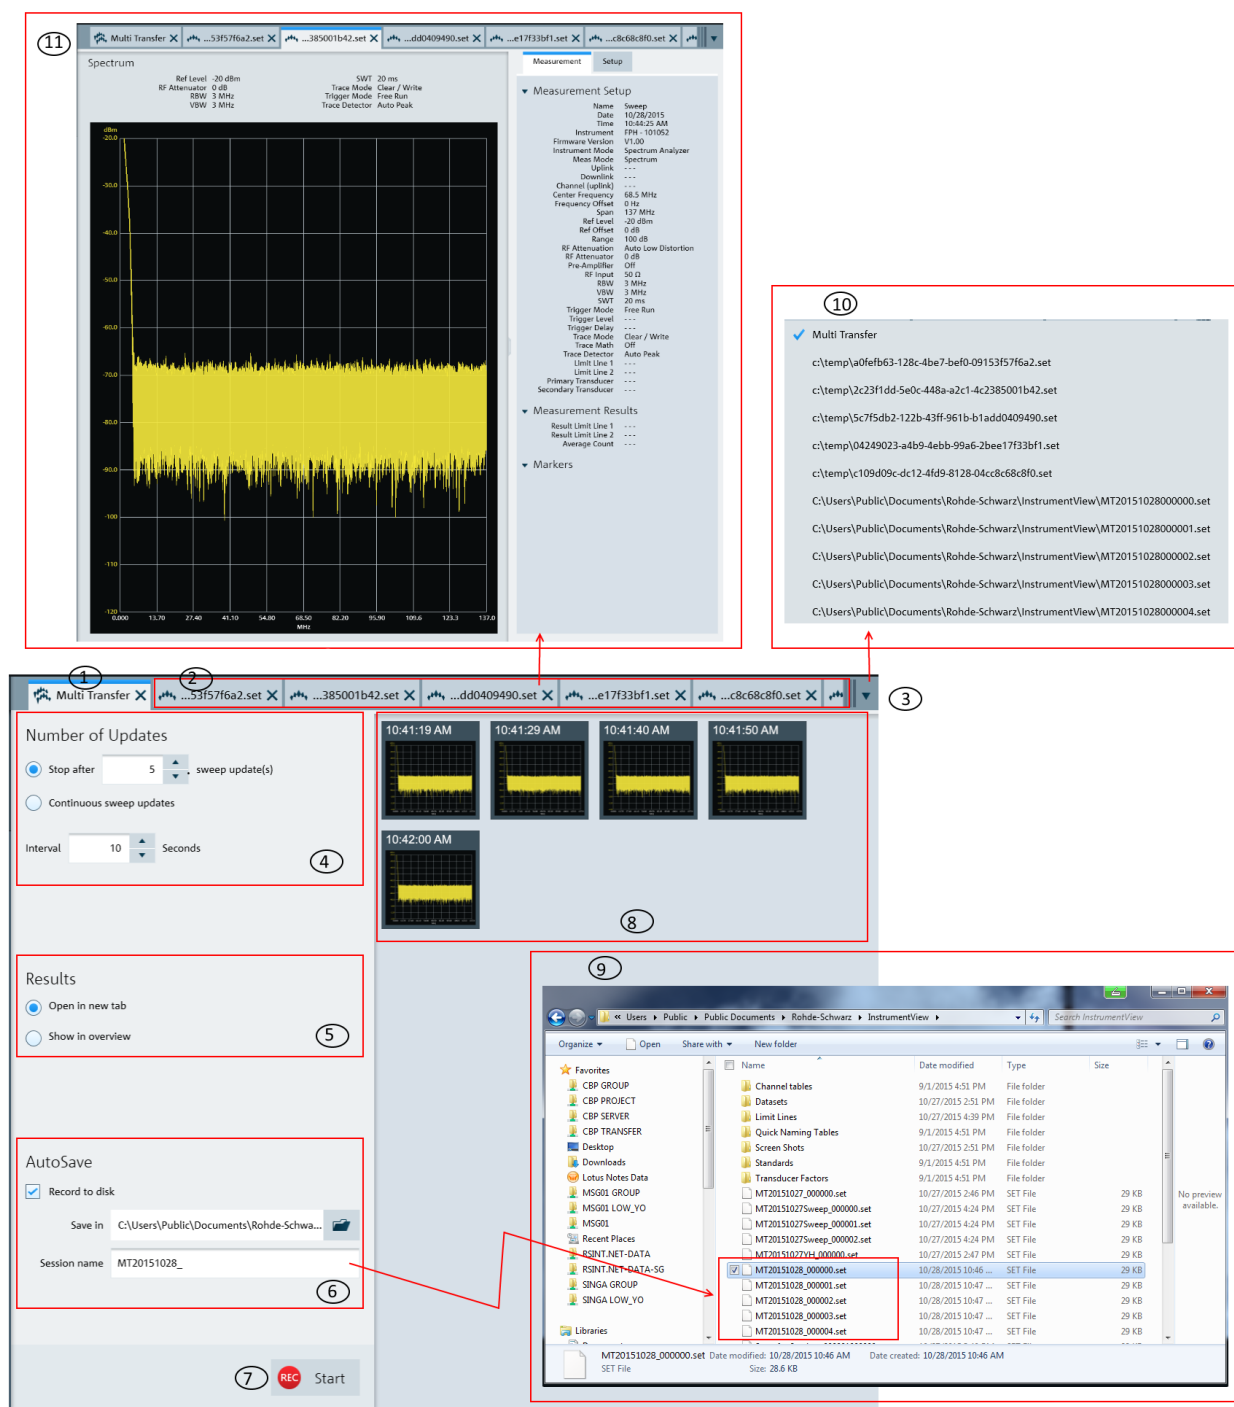

Figure 5-11: Multi-transfer dialog
"View" 	Views the details of the trace measurement file. For viewing, see Chapter 4.3, "Save Instrument" , on page 23 for a list of file format supported. When a file is selected to be viewed, a tab is displayed in the header bar of the screen layout. See index 11 of Figure 5-11 .
The "Multi Transfer" menu allows you to capture and save trace measurements from the instrument. See Figure 5-11.
- 2 = Measurement results tab (see index 11 in Figure 5-11)
- The trace measurement in the overview area. See index 8 in Figure 5-11.
- The individual trace measurement result in the "Tab header bar". See index 2 in Figure 5-11.
See index 11 in Figure 5-11.
See index 9 in Figure 5-11 to view the trace measurements captured in the file directory.
Depending on the setting in the "Results" section (see index 5 in Figure 5-11), the trace measurement updates can be displayed in the overview area (see index 8 in Figure 5-11) or individually displayed as a new tab in the tab header bar (see index 2 in Figure 5-11).